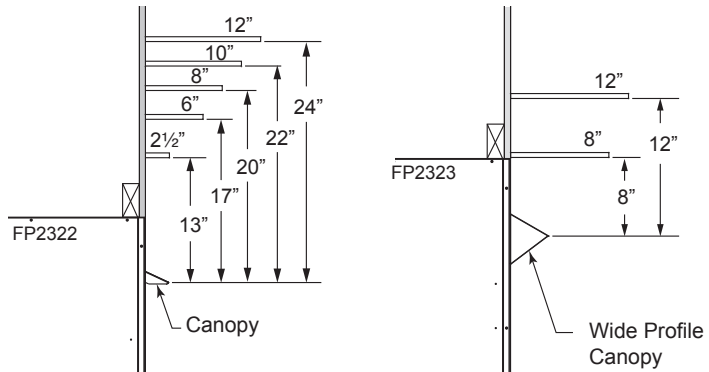

Figure 7 - Minimum Mantel Clearances for Canopy and Wide Profile Canopy
5. **Mantel clearances** — **The canopy supplied with the unit must be installed.** If a combustible mantel is installed, it must meet the clearance requirements detailed in *Figure 7*.